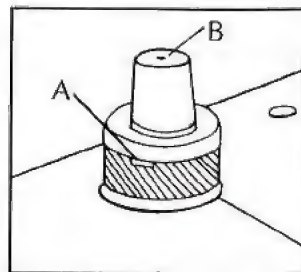
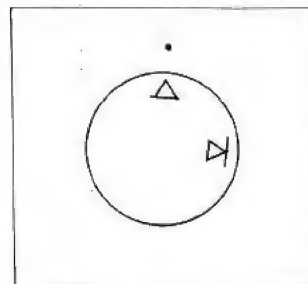
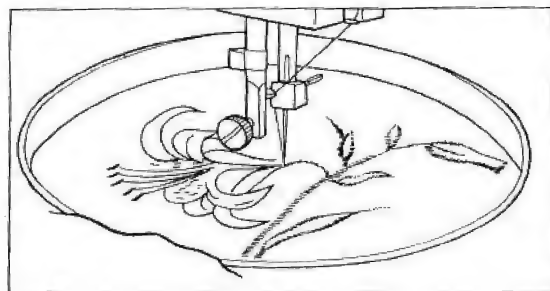
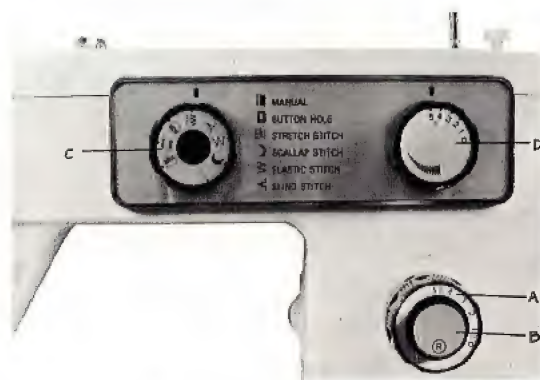

Fig. 14
Fig. 15
Fig. 21
Fig.17
General Sewing. Usually for normal sewing the pressure bar cap or darning release, (B, Fig. 14) is at its lowest position and the drop feed knob is turned to “ Δ ” position, (Fig. 15).
Sewing Thin or Light Weight Fabrics. When lighter pressure is required to sew satisfactorily on thin silk or flimsy material, the pressure cap should be about halfway down. Release all the way by pressing the snap lock, (A, Fig. 14) and then press cap (B) down again to halfway spot.
Darning and Mending. In order to move the fabric freely in any direction for darning and mending, release the pressure cap (B, Fig. 14) completely by pressing down on the snap lock, (A, Fig. 14)
Turn drop feed control (Fig. 15) to “ ∇ ” position. This will drop the feed well below the needle plate. To return feed to normal position, turn knob to “ Δ ” position.
- "D" Set zigzag width at 5, stitch length at 2. Sew a few zigzag stitches. Turn the drop feed knob (Fig. 15) to " Δ " position for 3 or 4 stitches then normal position again. By operating the drop feed knob rhythmically it is not necessary to count stitches. (D, Fig. 26).
1. Set pattern selector (C, Fig. 17) at "1" position.
2. With the zigzag width control (D, Fig. 17) set at the Number 5 and stitch length control (A, Fig. 17) as near 0 as possible without stopping the feeding action, a satin stitch is produced (Fig. 19).
4. With the machine set for a short stitch length, different designs can be made by turning the zigzag width control back and forth between 0 and 5 or any other combinations of widths. Try setting the zigzag width control (D, Fig. 17) at the first line and the various other lines. Set a rhythm for yourself and then proceed. After a while you will become quite skillful, varying your designs by the speed of the machine, stitch length and manipulation of the zigzag width control.
It is easy to follow a stamped design or to work free hand when embroidering or monogramming. (Fig. 21) Release the pressure from the foot by pressing down the snap lock on the darning. Turn the drop feed knob to “” position (Fig. 15).
6. Turn the pattern selector (C, Fig. 17) to marking " 2 " position, and start to sew left side along the line.
The length of the stitch is regulated by the stitch length dial (A, Fig. 17). Turn the dial to the right to lengthen and to the left to shorten the stitch. Near "0" is the shortest stitch and "5" is the longest.
When you wish to sew in reverse to tie the threads at the beginning or the end of a seam, press the reverse button (B, Fig. 17) as far as it will go. The machine will sew backward as long as the button is pressed.
For all ordinary manual sewing, straight or zigzag, make sure that the pattern selector (C, Fig. 17) is set at "straight & zigzag" stitch pattern (Marked 1).
By turning the zigzag width control (D, Fig. 17) clockwise from 0 toward 5, zigzag width will be increased, and by turning it counter-clockwise, it will be decreased, and at "0" position, the machine will sew straight stitches.
2. Turn drop feed knob to “” position (Fig. 15), pattern selector (C, Fig. 17) to “1” position and zigzag width control (D, Fig. 17) to “0” position.